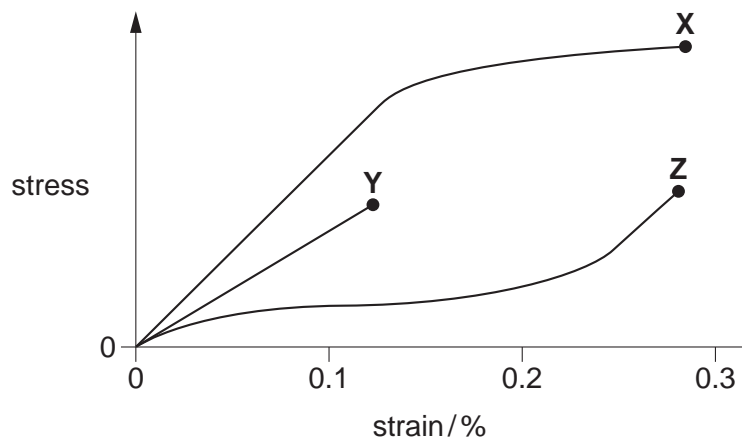

Fig. 7.1
- 4 (a) Fig. 7.1 shows stress against strain graphs for materials X, Y and Z up to their breaking points.